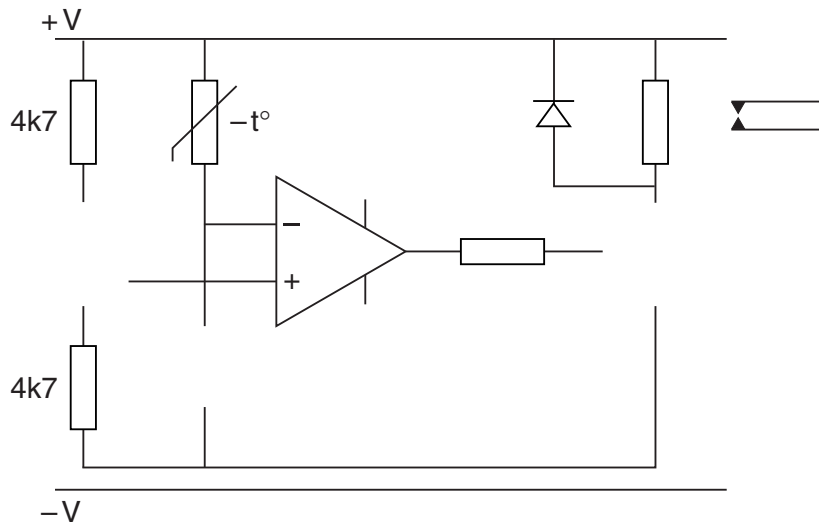

Fig. 2
- (b) Fig.2 shows an incomplete diagram of a thermostatically controlled comparator circuit including a 741 operational amplifier. Complete the circuit. [4]